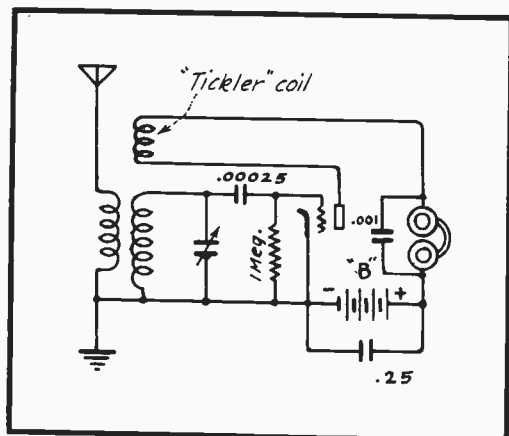
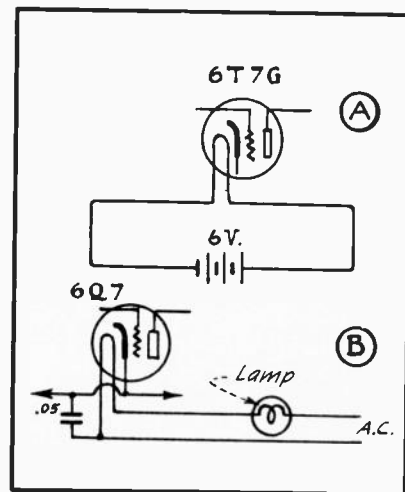

FIG. 4
FIG. 5
In Fig. 4 of this lesson is shown the schematic diagram of the receiver that you are about to construct. As you will observe, a heat er-cathode type triode is employed in a regenerative detector circuit. This type of receiver is not used commercially at present due to the extreme care required to tune-in the desired signal. However, the regenerative detector circuit is extremely sensitive. Regeneration is accomplished by using a regular antenna coil in conjunction with an additional coil, known as the "tickler" or feed-back coil. The rest
Further study of Fig. 4 will disclose that a 45-volt battery is used as the B supply, and that the headphones are connected in series with the B+ terminal, tickler coil and the tube's plate. The .001 mf condenser is connected across the headphones to bypass the r-f component of the plate current. The same applies to the .25 mf condenser which is connected across the B battery. The filament circuit has been omitted from Fig. 4, because it has no direct bearing upon the operation of the receiver. However, it is shown in detail in Fig. 5.
periments, you can eliminate the battery from the filament circuit and instead connect the filament of your 6Q7 tube across the a-c line, also connecting a lamp in series with the circuit as shown at (B) of Fig. 5. If the circuit is of the 110-volt type, use a 110-volt lamp of a 25 to 40-watt rating; if the circuit is of the 220-volt type, use a 75-watt, 220-volt lamp.